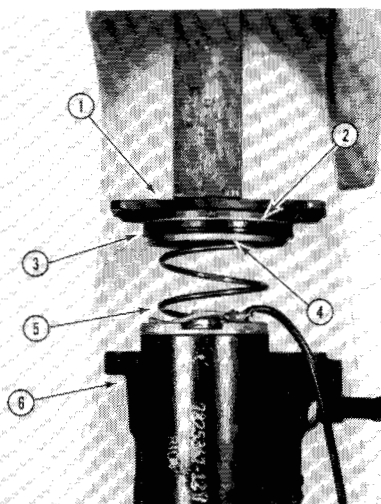

Figure 53
Remove cap (1, Figure 53) support plate (2) seal (3) expander (4) and spring (5) from power booster assembly (6).